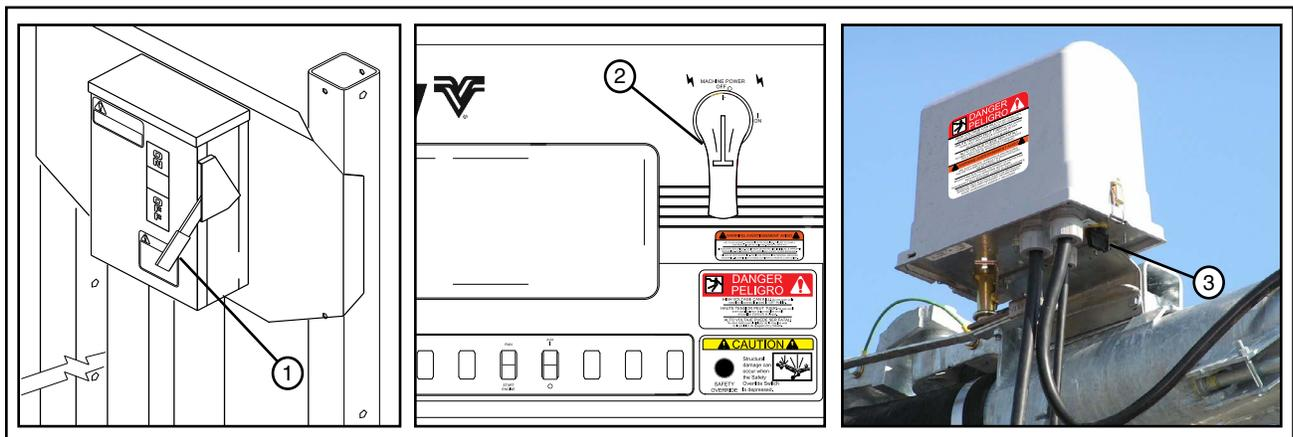

Figure 23-1 1. Main Service Disconnect Switch
- Main Service Disconnect Switch from public power to the control panel. See Figure 23-1.
- Control Panel Main Disconnect Switch. See Figure 23-1.
- Any Tower Box Disconnect Switch. See Figure 23-1.